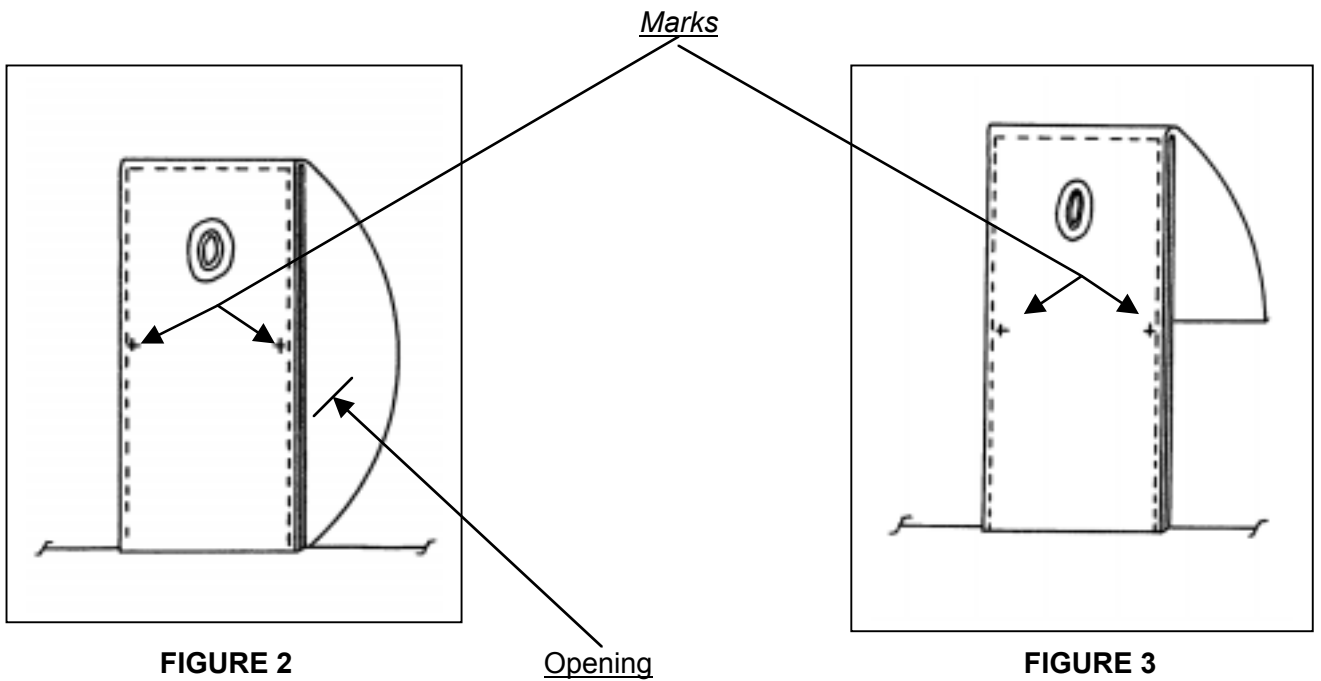

FIGURE 2
2. You should have a continuous loop of Type 12. [Fig 2].
Line up hot-knifed edge of Type 12 webbing at marks as marked in Fig 2 & 3.
Mark the top layer of Type 12 directly above the two marks as marked in Fig 2 & 3.